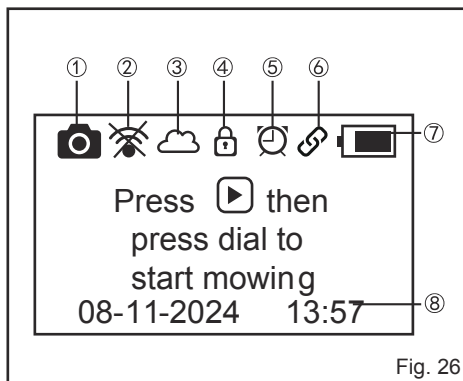

Fig. 26
- Place the mower on the base station. Make sure the mower's charging strips are fully connected with the contact strip of the base station (Fig. 24). The mower will automatically start initialization (Fig. 25). It will take about 15 seconds to complete this process. The mower will beep twice, and the LCD panel will display the Main Screen (Fig. 26).
MAIN SCREEN (FIG. 26)